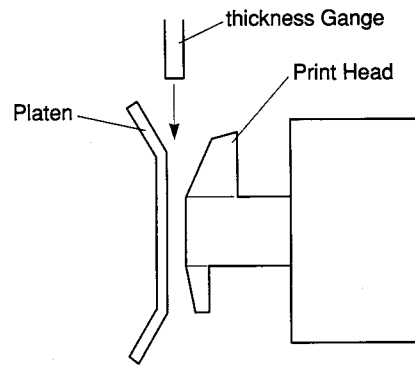

Figure 3-2 Gap Measurement Method
2. Remove the screw ① at two places.
3. Remove the head cover ②.
4. Loosen the screw ③ fixing the print head and the carriage Ass'y.
5. Insert the thickness gauge between the print head and the platen and measure the gap. (Refer to the figure 3-2)
7. After adjustment of the gap, securely fix the print head and the carriage Ass'y with the screw ③.